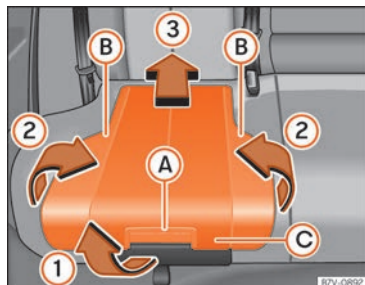

Fig. 32 Integrated child seat: lift the cushion.
- Pull the unlock lever »» **Fig. 32** (A) on the cushion in the direction of the arrow »» **Fig. 32** (1).
- Fold both sides »» Fig. 32 B up in the direction of the arrow »» Fig. 32 2.
- Push the cushion »» Fig. 32 C back in the direction of the arrow »» Fig. 32 3 until it engages.